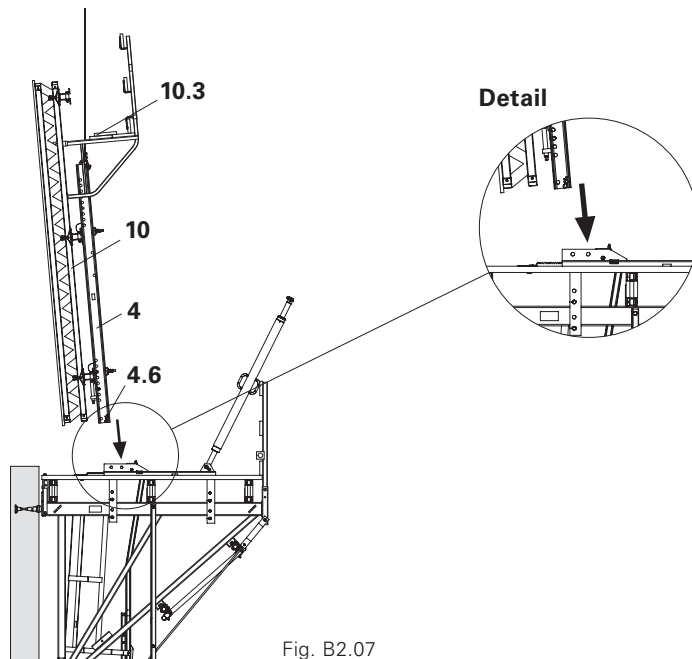

Fig. B2.07
4. Attach complete formwork element to the strongback (4) and position on the CB 240 platform. (Fig. B2.07)